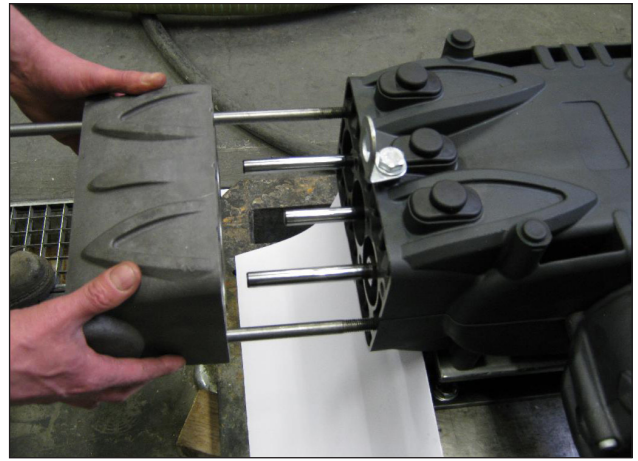

Fig. 38
- Separate the head and the spacer for the liners from the pump casing as shown in Fig. 37 and Fig. 38.
- Separate the head and the spacer for the liners from the pump casing as shown in par. 2.2.1 Fig. 37 and Fig. 38.